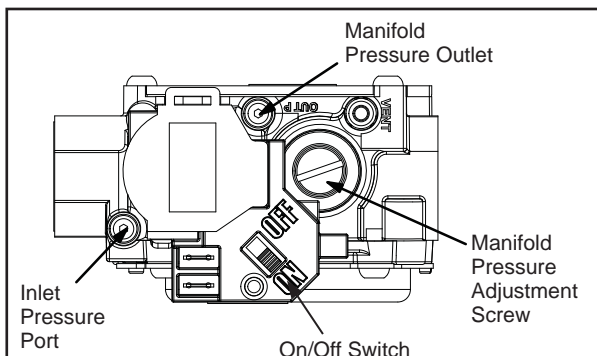
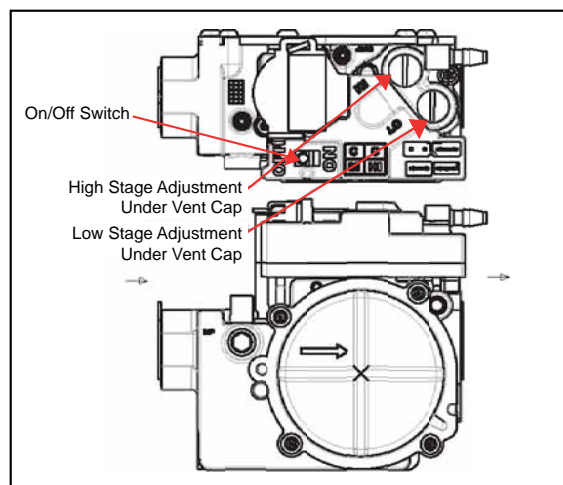

Figure 1. Single Stage Gas Valve
Figure 2. Two-Stage Gas Valve
6. Slide the gas control switch, or turn the gas control knob, to "OFF" (See Figure 1 or Figure 2).
4. Slide the gas control switch, or turn the gas control knob "OFF" (See Figure 2). Do not force.